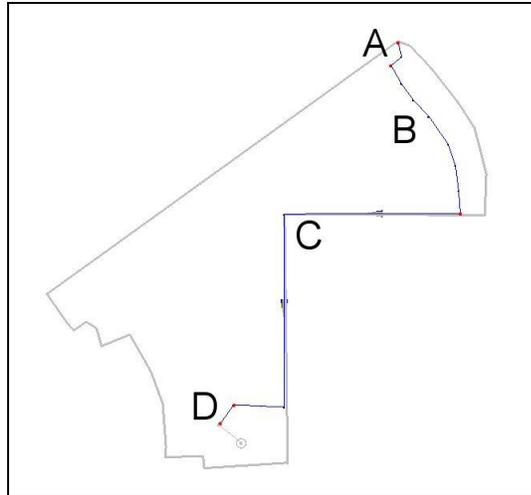

Figure 2 Time computation arcs
The arc has been split into four different segments to assign different equations for determining the travel time for the arc. The different equations assigned to the different arc segments represent different runoff flow types such as sheet flow, shallow concentrated flow, and channel flow. Use Figure 2 as a guide while defining the equations.
3. Using the **Select Feature Arc** tool, double-click on the arc labeled “A” in Figure 2 to bring up the *Time Computation Arc Attributes* dialog.
10. Using the **Select Feature Arc** tool, double-click on arc B (see Figure 2) to bring up the *Time Computation Arc Attributes* dialog.
14. Repeat steps 10-13 for arc D (see Figure 2), but enter “NO” as the *Variable value* for the “Paved” line in the *Variables* section.
15. Using the **Select Feature Arc**  tool, double-click on arc C (see Figure 2) to bring up the *Time Computation Arc Attributes* dialog.